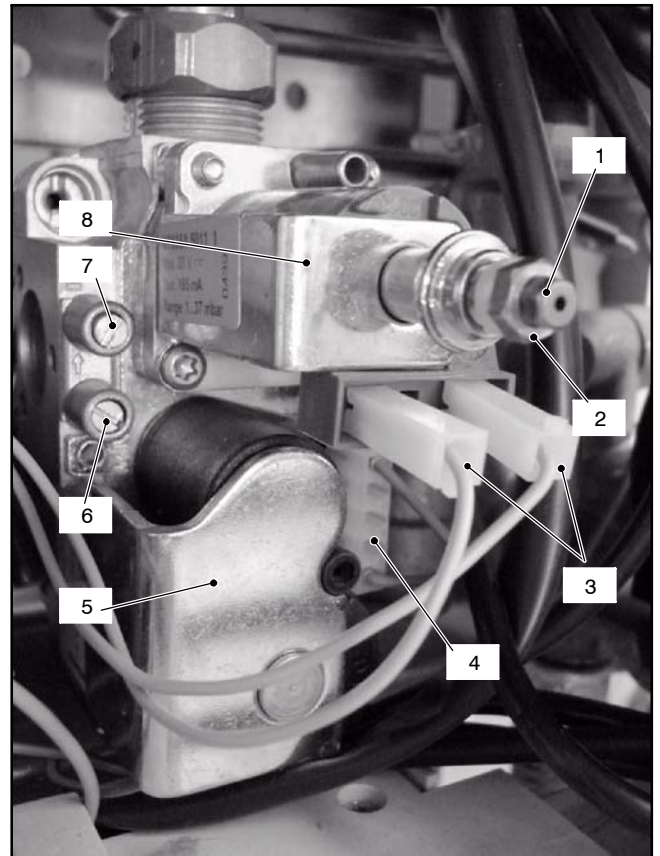

Fig. 47
11.2 Nomenclature of the parts (Fig. 47)
- 2 Open the gas valve inlet pressure test point (6 in Fig. 47) at the valve input, connect a suitable pressure gauge and check the gas pressure of the supply network.
- 4 Open the gas valve outlet pressure test point (7 in Fig. 47) and connect the gauge;
- 7 Rotate the maximum gas pressure adjustment (2 in Fig. 47) until you obtain the required pressure (by rotating clockwise the pressure increases).
- 8 Turn the boiler off and disconnect one of the two connectors (3 in Fig. 47).
- 9 Start the boiler and rotate the minimum gas pressure adjustment (1 in Fig. 47) until you obtain the required pressure (by rotating clockwise the pressure increases).